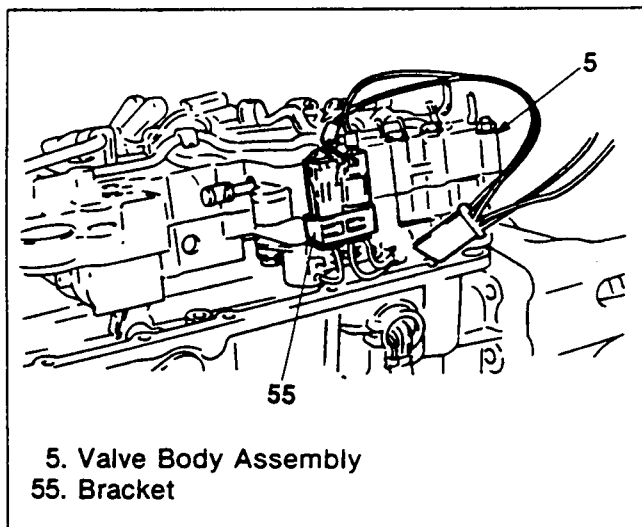

Figure 295a. Harness Connector Installation
3. Fasten them with brackets (figure 295a).